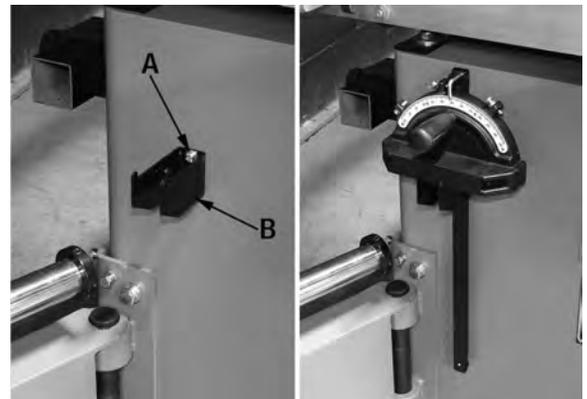

FIGURE 42
1. Remove the two screws (A) Fig.42 from the left side of the cabinet.
2. Install miter gauge storage bracket (B) using the same screws.